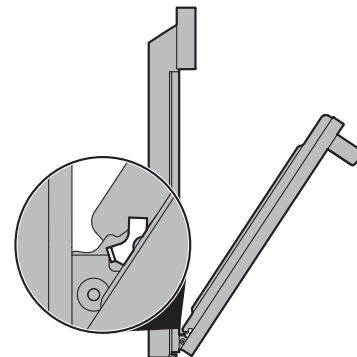

Figure 16: Removal position
3. Grasp the door by the sides, and close the door until the door frame makes contact with the unlocked hinges (Figure 16).
2. Hold the oven door at the same angle as the removal position (Figure 16) Carefully insert the hinge levers into the oven frame until you feel the hinge levers are seated into the hinge notches. The hinge arms must be fully seated into the hinge notches before the oven door can be fully opened.